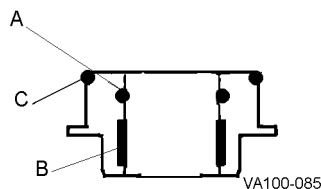

Figure 22 - Standard Lower Bearing Carrier
1. Remove and replace the o-ring (Figure 22, item A) located inside the lower bearing carrier. For the flush/steam barrier adapter, see Figure 4 on page 9.
2. Check the split bearing (Figure 22, item B) inside the lower bearing carrier by feeling the amount protruding from the lower bearing carrier wall. If the bearing is flush with the wall, replace the bearing.
7. To remove the outer o-ring (Figure 22, item C), slide or cut the o-ring off the lower bearing carrier. Do not nick or scratch the o-ring groove.